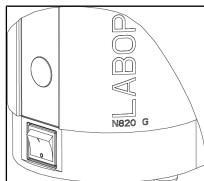

Fig.6: Switching the pump on and off with power switch
- Switch on the pump with the power switch (see Fig. 6).